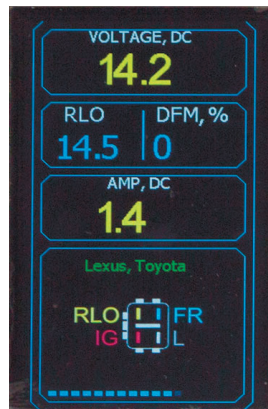

Fig. 16. MS004COM
- **RLO:** indicator of set stabilizing voltage of a voltage regulator (voltage regulators with RLO terminal only) **(Fig. 16)**.